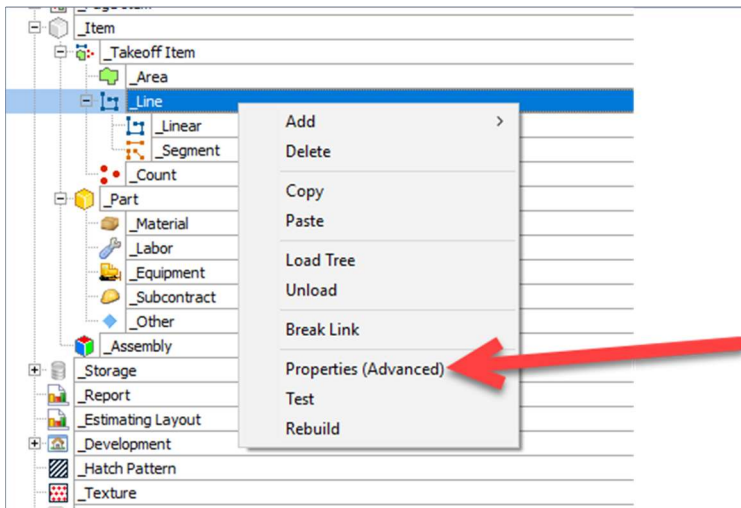

Figure 10
10. Click on **Properties (Advanced)** in Figure 10.